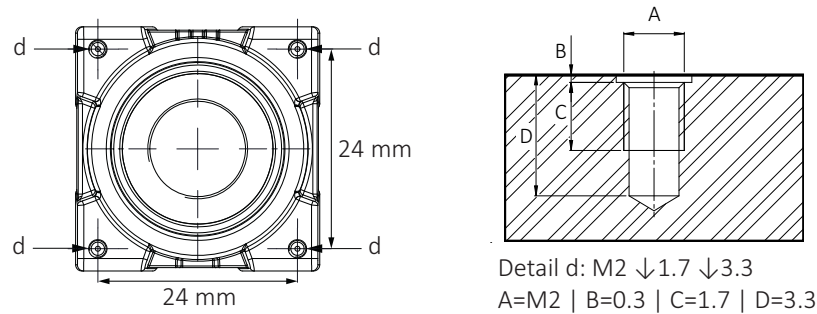

Figure 13: Camera front with mounting threads (c)
1. Mount the camera to the base using suitable M2 screws at 0.17 Nm maximum torque for a thread engagement (C) of 1.7 mm between screws and mounting threads, see Figure 13. For technical drawings, see G1 Closed Housing: Dimensions and mass on page 136.